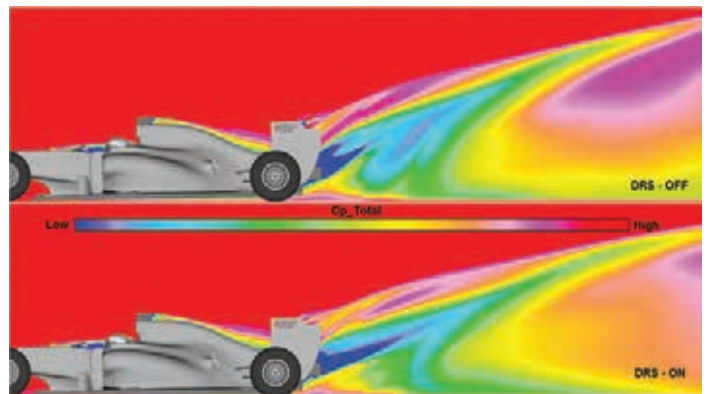
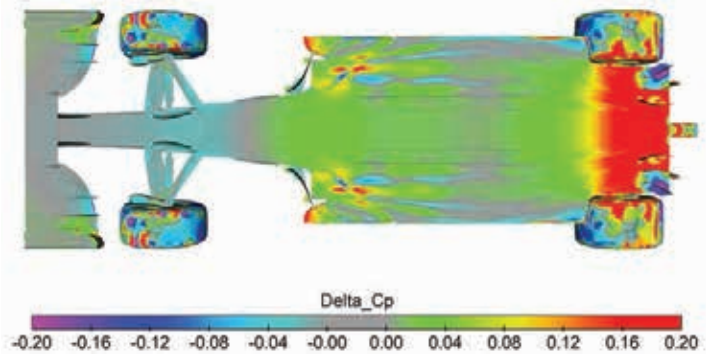

Figure 16: This longitudinal total pressure slice on the car's centreline compares upwash in the wake with the DRS opened (ON, bottom) and DRS closed (OFF, top)
Figure 17: Activating the DRS also had a significant effect on underbody pressures
the suction on the other side of the flap diminishes, too, jointly reducing drag as a result. However, there is more to it than that. Once the DRS is activated, the strong up-wash component reduces, which can be seen in Figure 16, where slices of total pressure at the longitudinal centreline of the two set-ups are compared, one with DRS open (ON) and one closed (OFF). The resulting changes are apparent in the delta_Cp plot Figure 17 where the under floor and diffuser region have clearly lost downforce.'